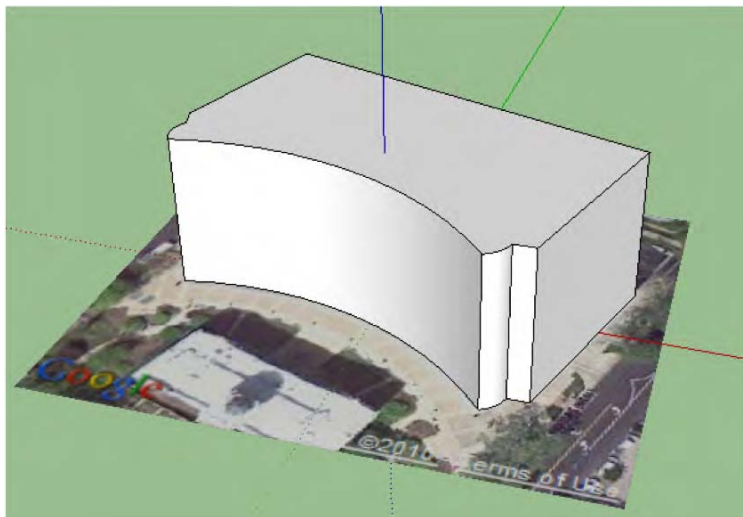

Figure 9–24. Current view in Google SketchUp
3. This will import the current view of the image into SketchUp (Figure 9–24). Using this image, construct the model.